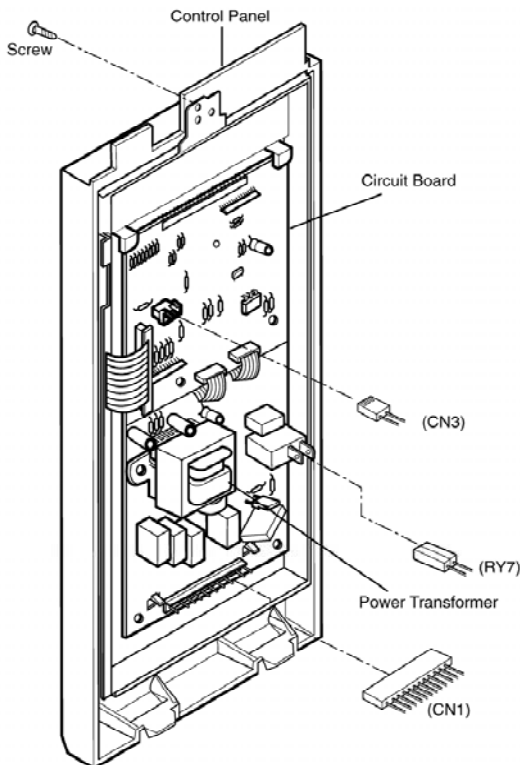

Figure 1
A. REMOVING POWER AND CONTROL CIRCUIT BOARD (Figures 1, 2 and 3)
- (1) Remove a screw securing the control panel assembly to the oven cavity.
- (2) Remove the control panel with pushing it upward.
- (3) Remove the connectors (CN1, CN3) and wire leads (RY7) from the circuit board.